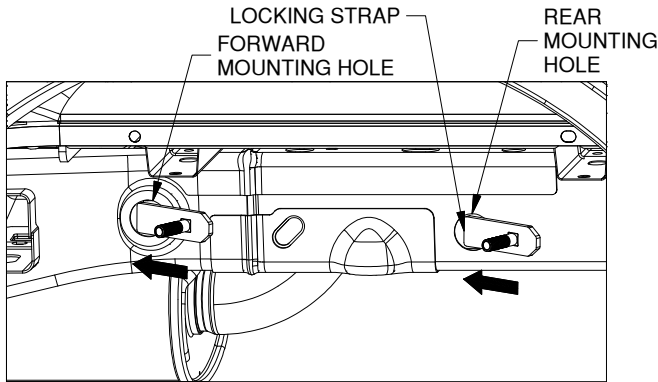
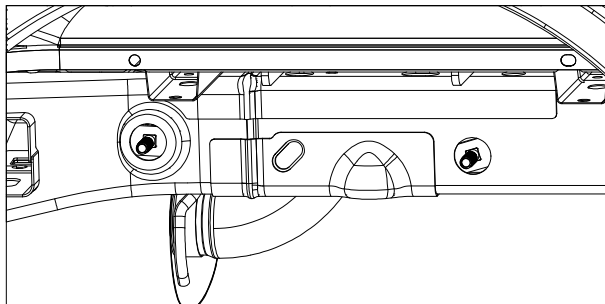

Figure C1: View of driver side wheel well.
Figure C2: View of driver side wheel well.
1. **Install carriage bolts.** Each side plate is attached to the frame with the help of a locking strap. To begin, locate the forward and rear mounting holes in the frame, shown in Figure C1. Attach the carriage bolts to the locking straps by passing the bolts through the straps. Insert the locking straps through the holes in the frame until they are completely inside the frame and only the carriage bolt is passing through the holes, see Figure C2.